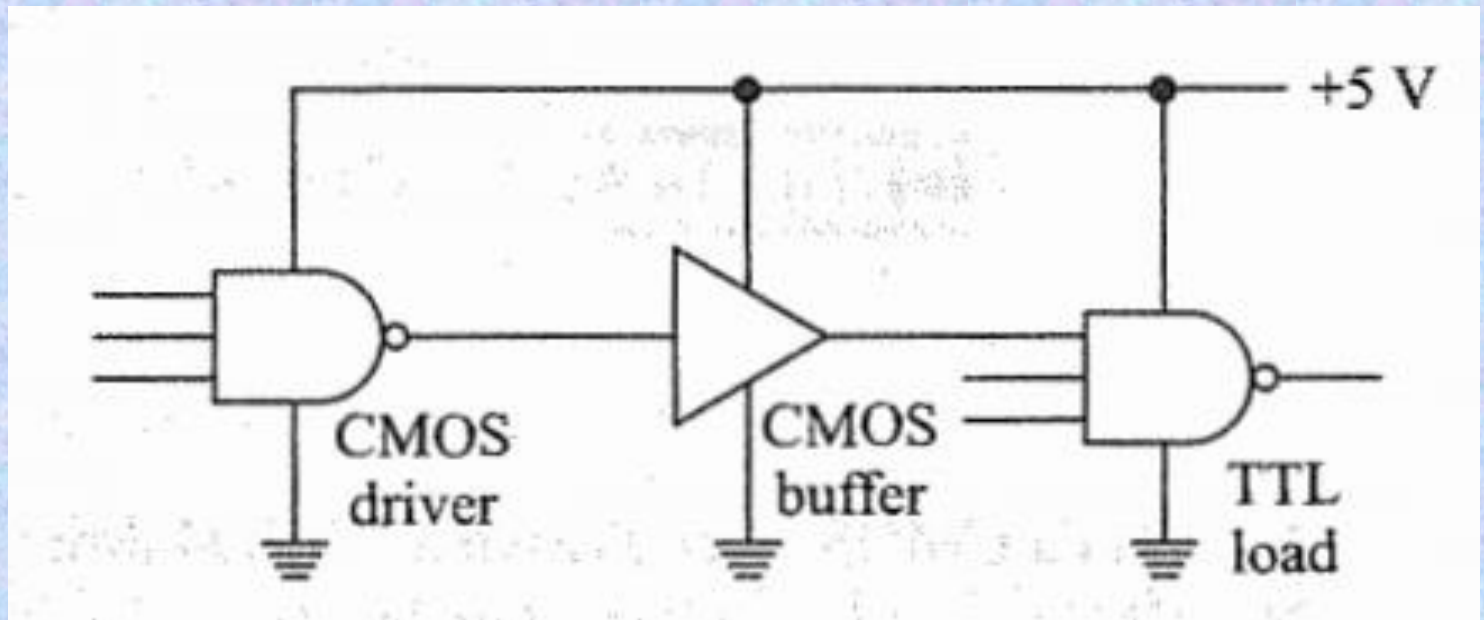

Fig 1.39 CMOS buffer can drive standard TTL load
- Figure 1.39 shows how to get around the fanout limitation just discussed. The CMOS driver now connects directly to a CMOS buffer, a chip with larger output currents. For instance, a 74C902 is a hex buffer, or six CMOS buffers in a single package. Each buffer has these worst-case output currents:
- Since a standard TTL load has a low-state input current of 1.6 mA and a high-state input current of 40 μ A, a 74C902 can drive two standard TTL loads. If you use one-sixth of a 74C902 in Fig. 1.39, the CMOS/TTL fanout is 2. Other available buffers are the CD4049A (inverting), CD4050A (noninverting), 74C901 (inverting), etc.